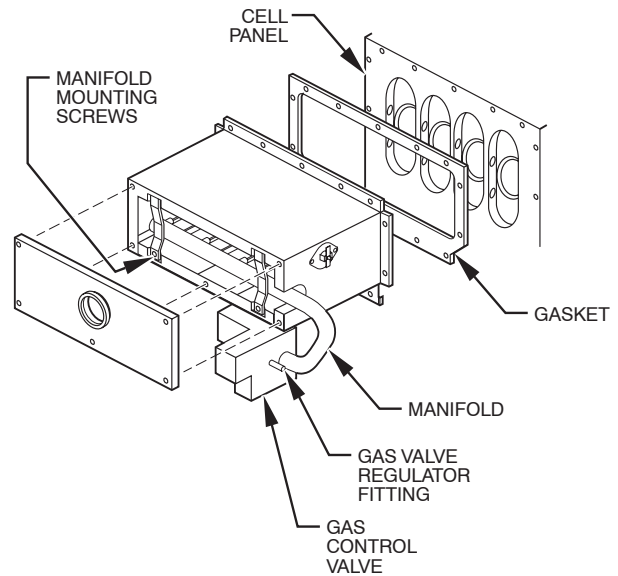

Fig. 6 – Burner Box Assembly
9. Remove screws that secure manifold to burner box. (See Fig. 6.)
10. Remove screws attaching burner box to cell panel. (See Fig. 6.)
NOTE: Be sure burner box gasket is installed between burner box and cell panel. (See Fig. 6.) If gasket is damaged, replace it.